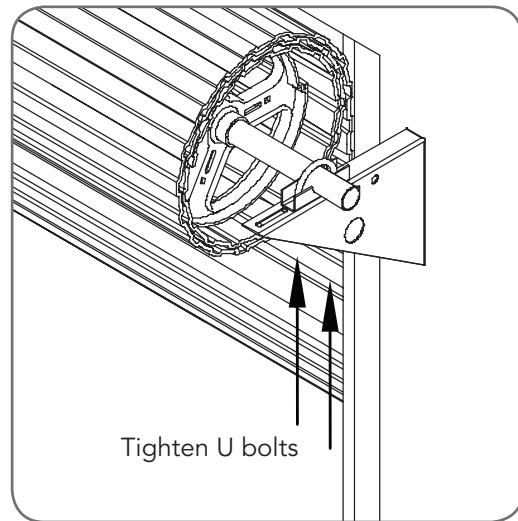

Fig 7.1
- a. At the end opposite to where the opener will be fitted, check that the door axle is tightened to the bracket securely. (Fig. 7.1)